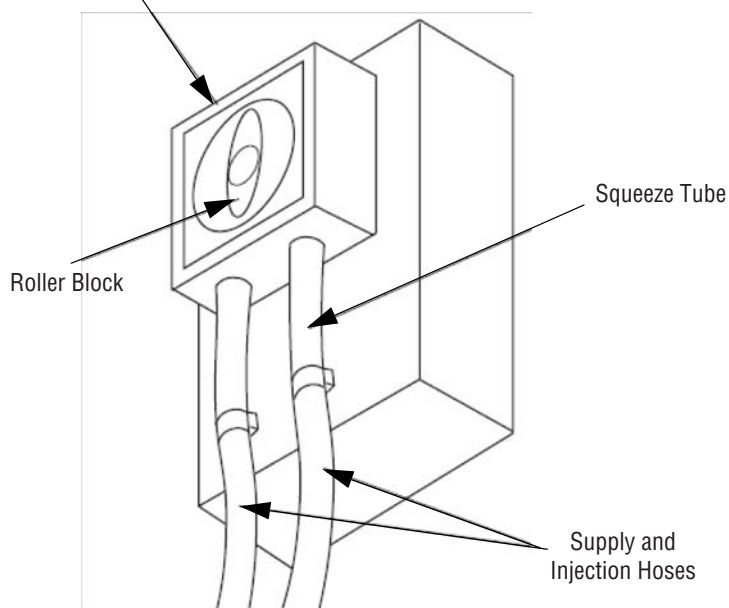

Figure 6-4. Detergent Supply Pump
3. Remove clamps and disconnect supply and injection hoses from squeeze tube (see Figure 6-4).